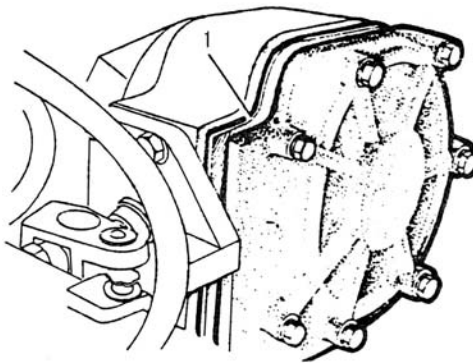

Fig.24 Adjustment of the total clearances between the left and the right brake strips
b. Adjustment of the total clearances between the left and the right brake strips: When the total clearances are not the same and different widely, the above adjustments can't meet requirements. You can increase or reduce adjusting spacers 1 on brake cover and start the above adjustments after adjusting total clearances (Fig.24).